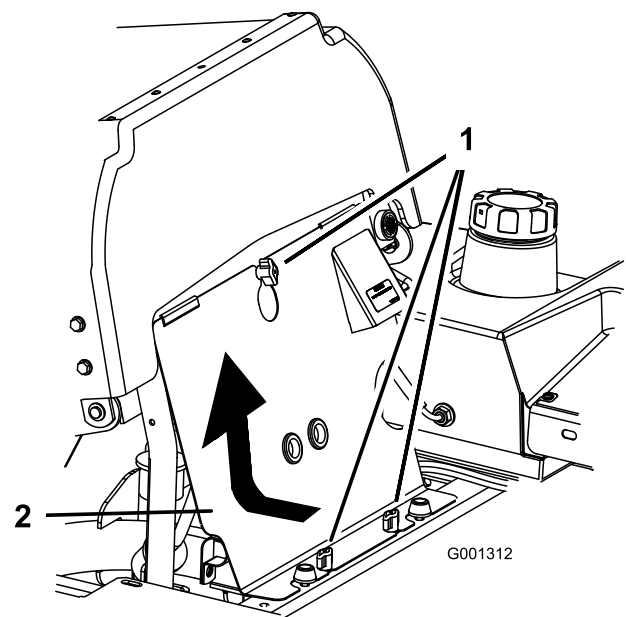

Figure 62
3. Loosen the front engine panel knobs and remove the panel (Figure 62).